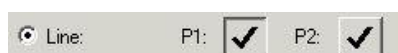

Figure 50: Checkmarks: both Points are Set
- 1) Select one of the three translating options (in the example **Line** is selected); the translate direction is thereby determined using two points. *Please refer to the Figure 50.*